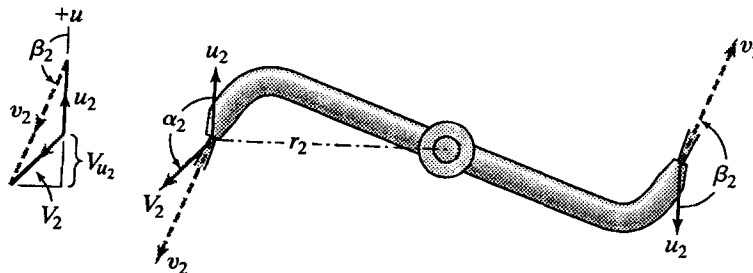

Figure. 6.14
6.46 Given a lawn sprinkler such as that in Fig. 6.14 with  $\beta_2 = 160^\circ$ , in which the total area of the jets at a radius of 15 in is  $0.0008 \text{ ft}^2$ . When  $h = 144 \text{ ft}$ , compute the rate of discharge, the torque exerted by the water, and the power developed if the rotative speed of the sprinkler is 400 rpm. Neglect fluid friction, but note that the calculated torque must overcome mechanical friction and air resistance.